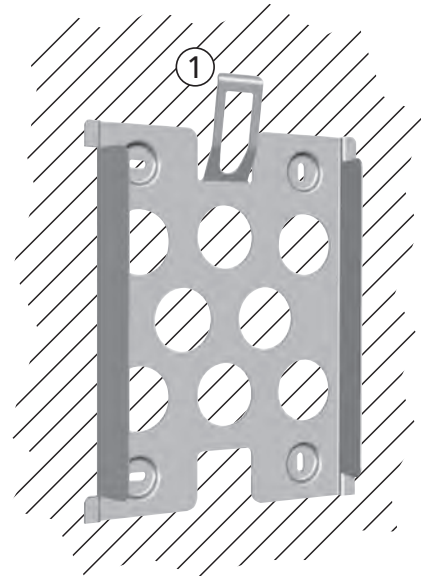

Figure 39
- The mounting plate must lie flat on the mounting surface and the metal strips at the sides must point forwards (Figure 39).
- Install the mounting plate vertically with the retaining plate ① at the top (Figure 39).